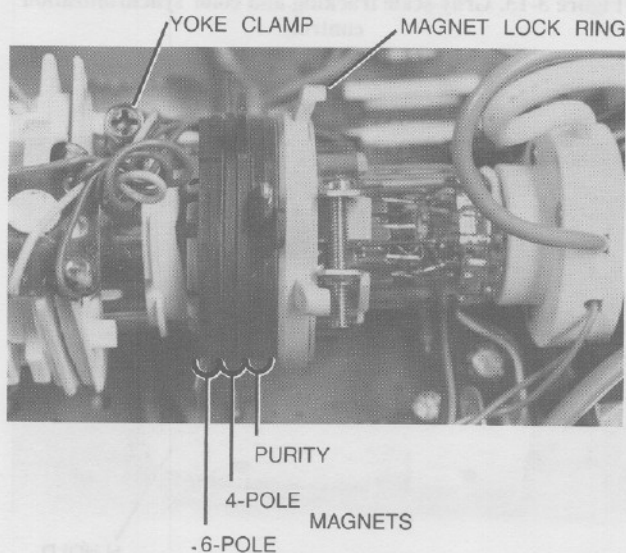

Figure 3-9. Magnet and deflection yoke assemblies
4. Loosen the clamp screws on the magnet and yoke assembly. Refer to Figure 3-9. Carefully slide the magnet/yoke assembly back towards the CRT socket as far as it will go. This should produce a green cloud.